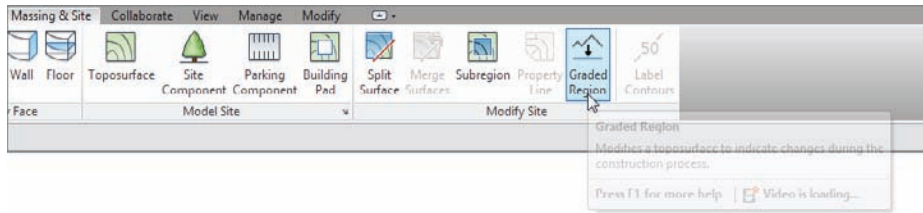

FIGURE 18.36 The Graded Region button
7. On the Massing & Site tab, click the Graded Region button, as shown in Figure 18.36.